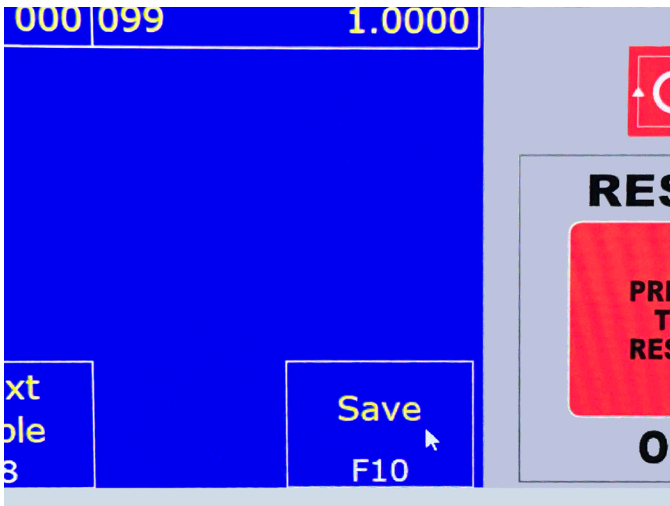

FIGURE 5
- Click on “SAVE F10” to save the parameter settings. Then click on ESC to go back to the previous pages (see Figure 5).